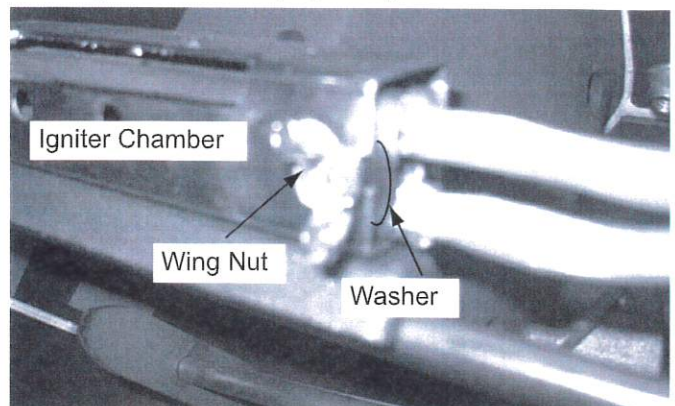

Figure 8
11. Install the new igniter into the chamber and place the washer between the igniter base and the inside of the igniter chamber (Figure 8).